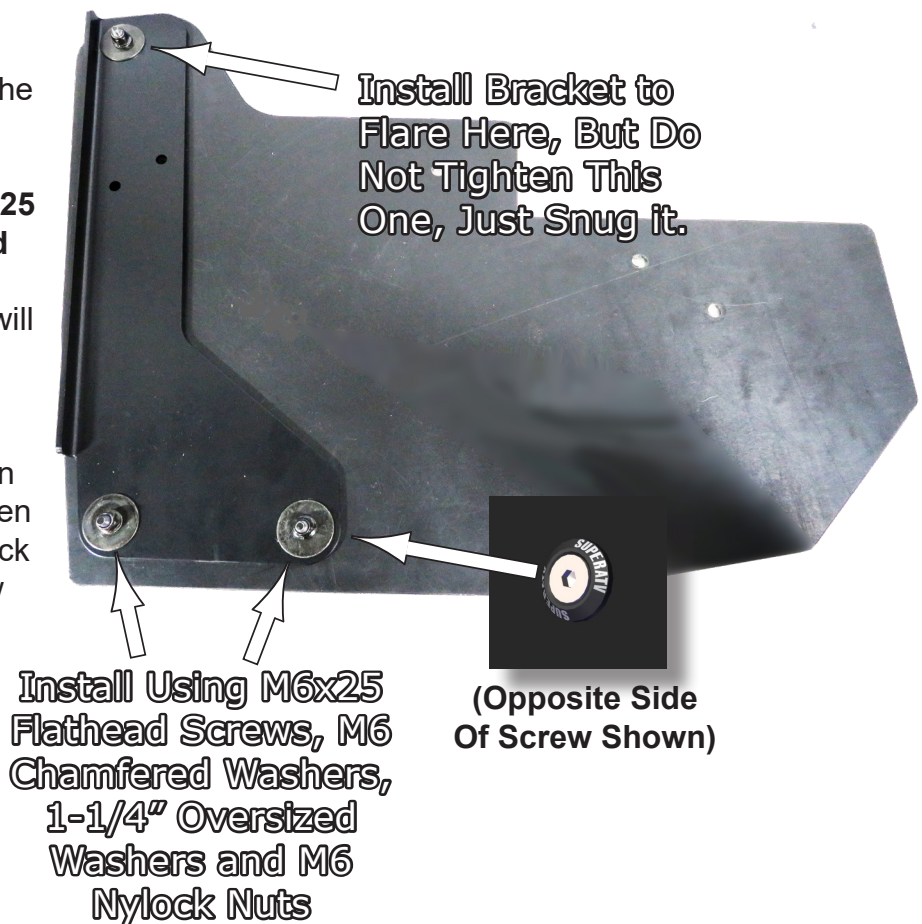

Fig.9
9. Next, you'll need to assemble a **Rear Support Bracket** to the other half of the Rear Flare. Find the matching bracket that fits the second half of the flap and install it onto the flare flap using the **M6x25 Flathead Screws, M6 Chamfered Washers, 1-1/4" Oversized Washers and Nylock Nuts**. You will install the (2) outer edge bolts first and tighten. Make sure the large washer and Nylock Nut are on the same side shown as in **Fig.9**. Then install the end bolt but do not tighten that one as you will be taking it back off to drill a hole. It is installed now just to hold it together while you align the pieces together.